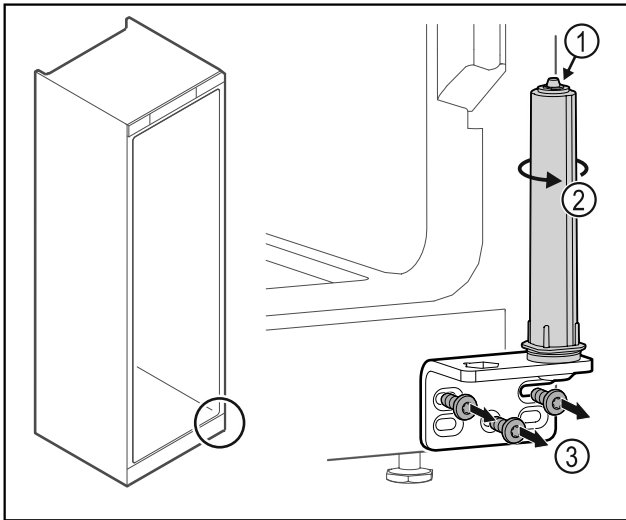

Fig. 36
- Do not disassemble the door closing system Fig. 36 (1).
- Turn the closing system Fig. 36 (2) until it clicks.
- Unscrew the hinge Fig. 36 (3).